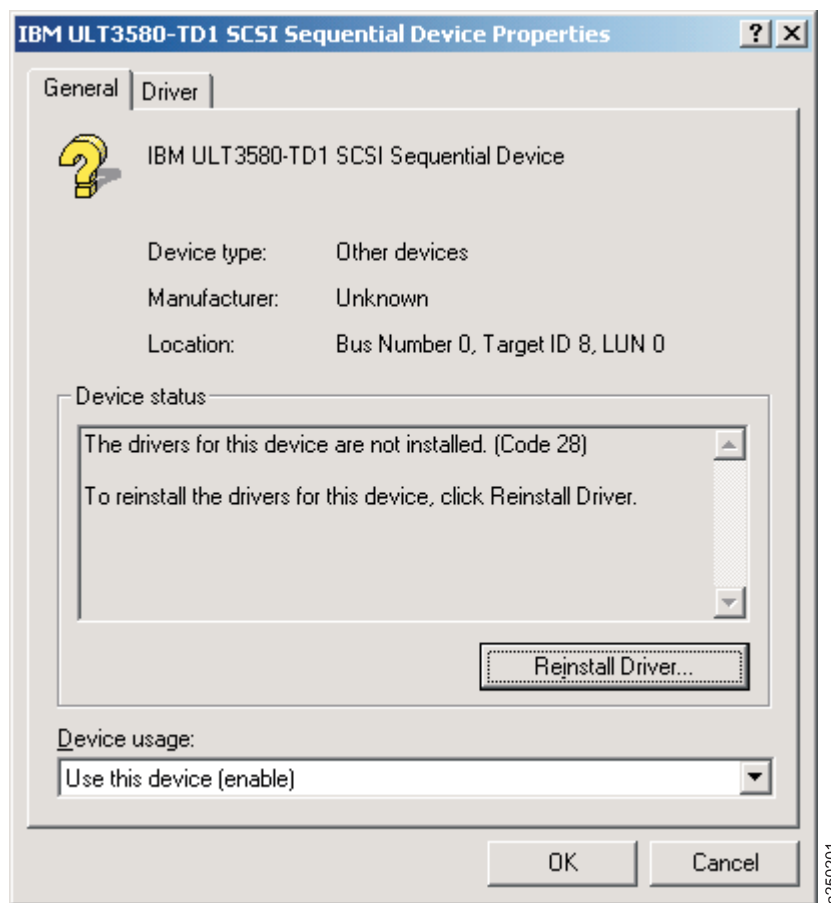

Figure 28. Device Driver Properties with Reinstall Driver ... Selected
10. A window opens. Click the **Reinstall Driver ...**. See Figure 28 on page 214. If there is no **Reinstall Driver ...** button on your screen, click on the **Driver** tab and then click **Update Driver**.